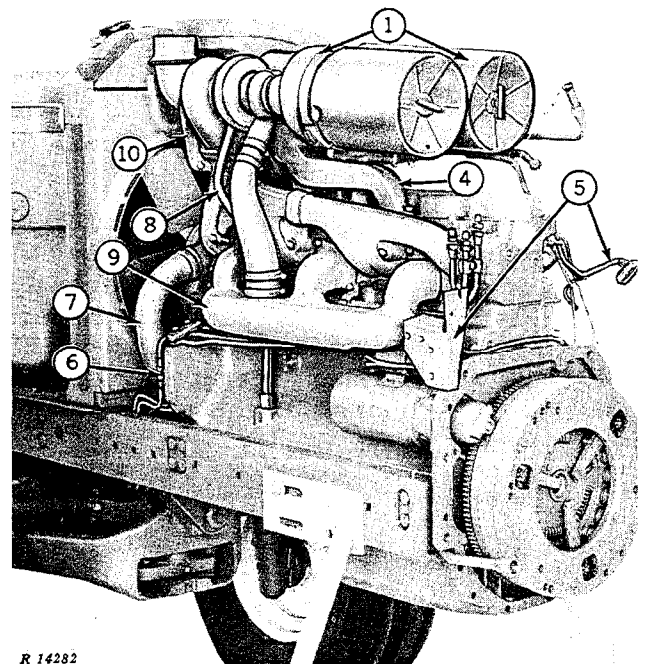

Fig. 20—Left Side of Engine
4. Remove water manifold (Fig. 20), bypass pipe, thermostat housing, and upper water hose.